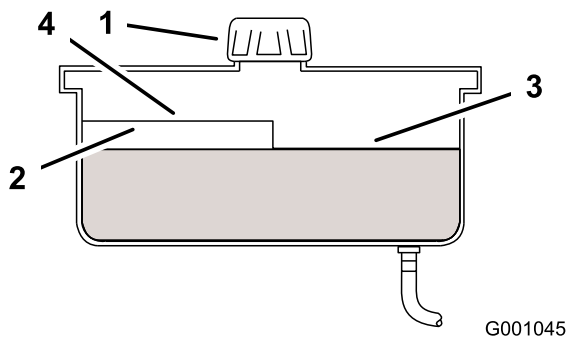

Figure 75
2. Clean the area around filler neck of hydraulic tank (Figure 75).
3. Remove the cap from the filler neck. Look inside to check if there is fluid in the reservoir (Figure 75).
Note: The fluid level should be to the top of the hot level of the baffle, when the fluid is hot (Figure 75).